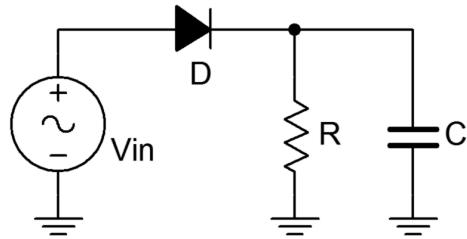

Figure 2
6. The circuit of Figure 2 adds a filtering capacitor across the load. This should help to “fill the gaps” created by the missing portions of the waveform. Build the circuit of Figure 2 using $V_{in} = 10$ volts peak at 1 kHz, $R = 10 \text{ k}\Omega$ and $C = 22 \text{ nF}$. Making sure that the scope inputs are DC coupled, place scope probes across the input and load, and capture the resulting image. Record the peak value in Table 2.